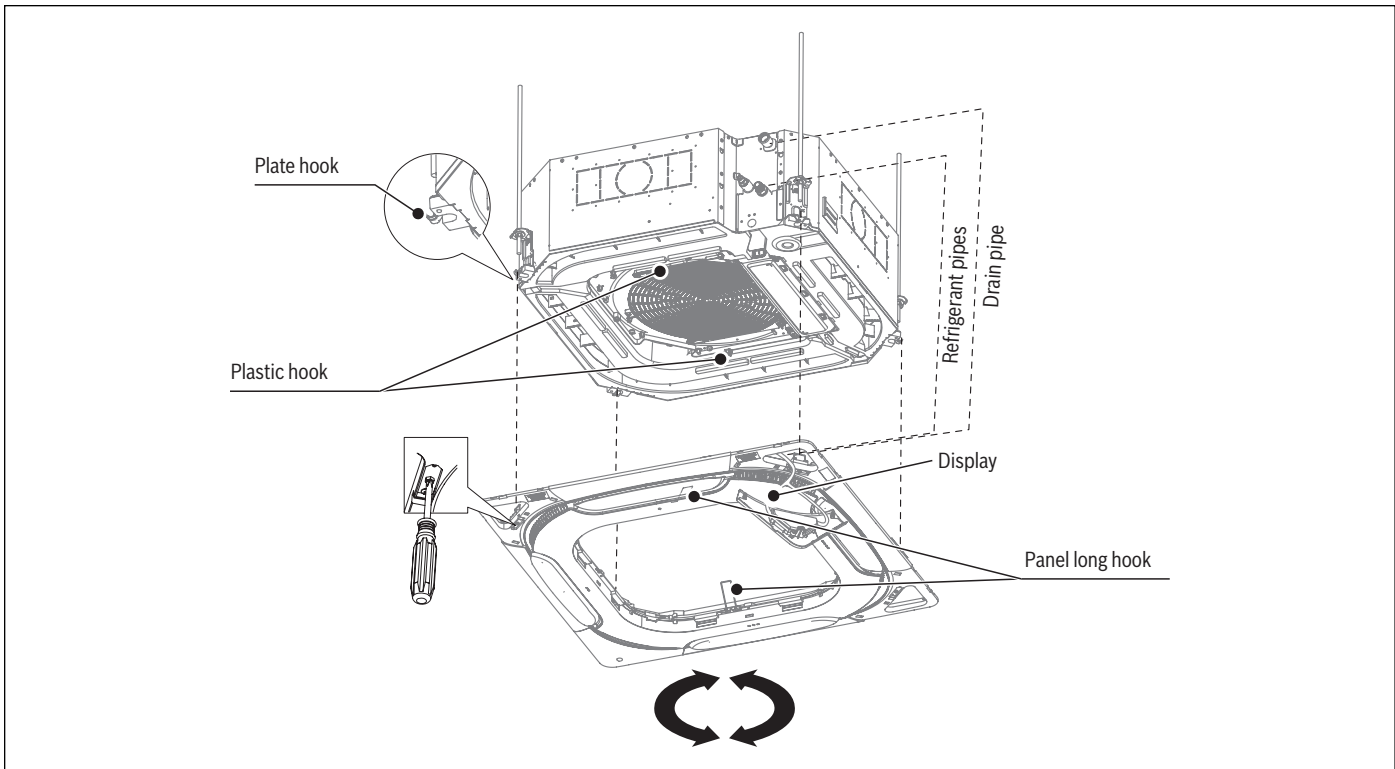

Figure 75
- a. Ensure the display on the panel is on the same side as the refrigerant connections (see Figure 75).
- c. Hook all four corners of the panel to the plate hooks on the outer corners of the indoor unit (see Figure 75).